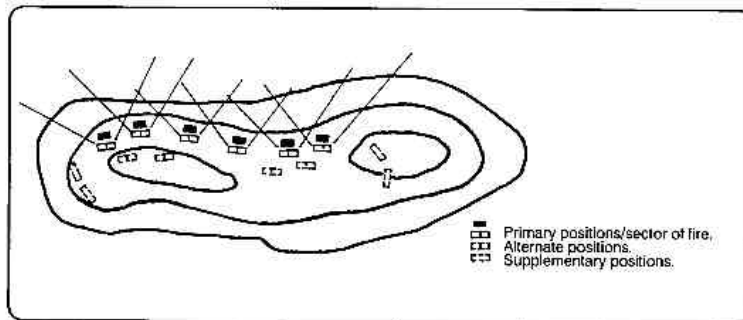

Figure 3-2. Primary, alternate, and supplementary positions.
a. When choosing a firing position for the Dragon, certain basic considerations must be observed to increase its effectiveness. These considerations apply to the selection of primary, alternate, and supplementary positions. (See Figure 3-2.)